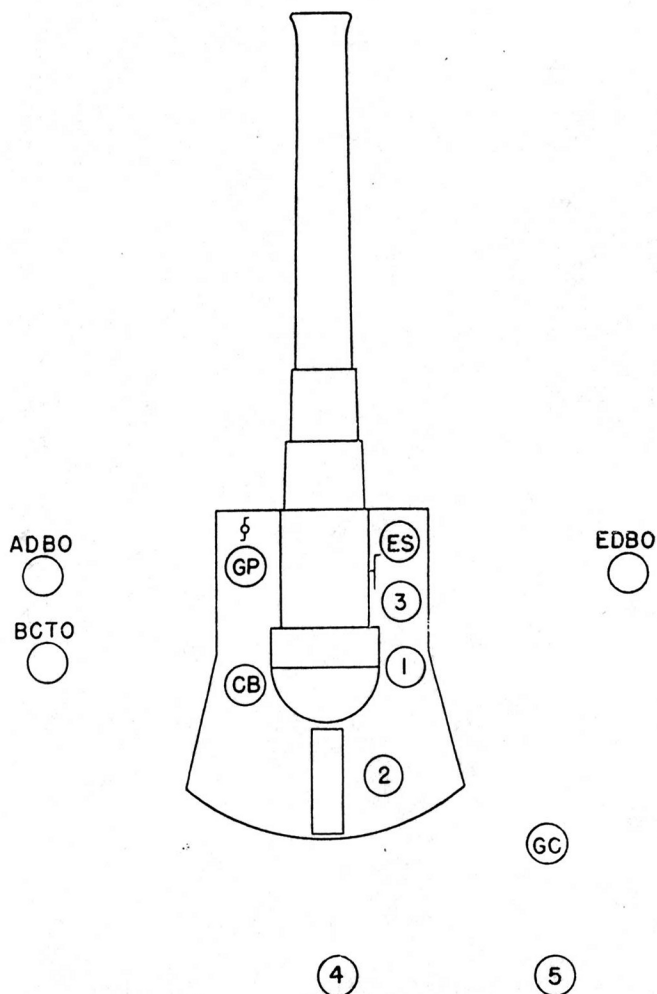

FIGURE 4.—Positions of gun squad at DETAILS, POSTS.
- (1) Training and efficiency of the personnel of his section.
- (2) Condition of the materiel under his charge.
- (3) Preparation of the piece for firing, including camouflage discipline and gas discipline when necessary.
- (4) Firing of the piece.
- (5) Observance of all safety precautions pertaining to the service of the piece.
- (6) Police of the emplacement.
c. Twice daily at the direction of the assistant battery executive or battery executive, he forms his gun section at the emplacement and commands: 1. DETAILS, 2. POSTS. Servicing equipment is kept convenient to the individual posts, and it is only necessary for members of the gun section to check the items for presence and place them for use. After all details have reached their posts (fig. 4), he commands: EXAMINE GUN. He then makes an inspection of the gun, carriage, and other materiel, giving particular attention to the recoil and recuperator systems, firing mechanism, recoil parts lock and other safety devices, and oiling of the various bearings. He receives the reports of the chief of ammunition and of the various details of the gun squad, and reports to the officer in charge of the emplacement, "Sir, No. — in order," or any defects which he is unable to remedy without delay.